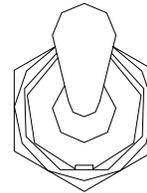

Figure 14: Dump Toggle Switch In “On” Position
7. Turn the dump toggle switches to the “On” or “UP” position. Air will begin to blow through the system (see Figure 14).